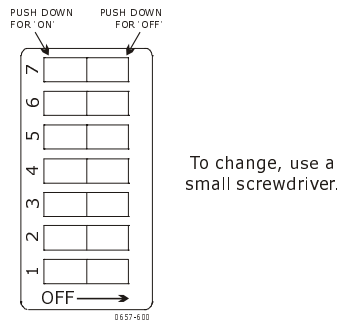
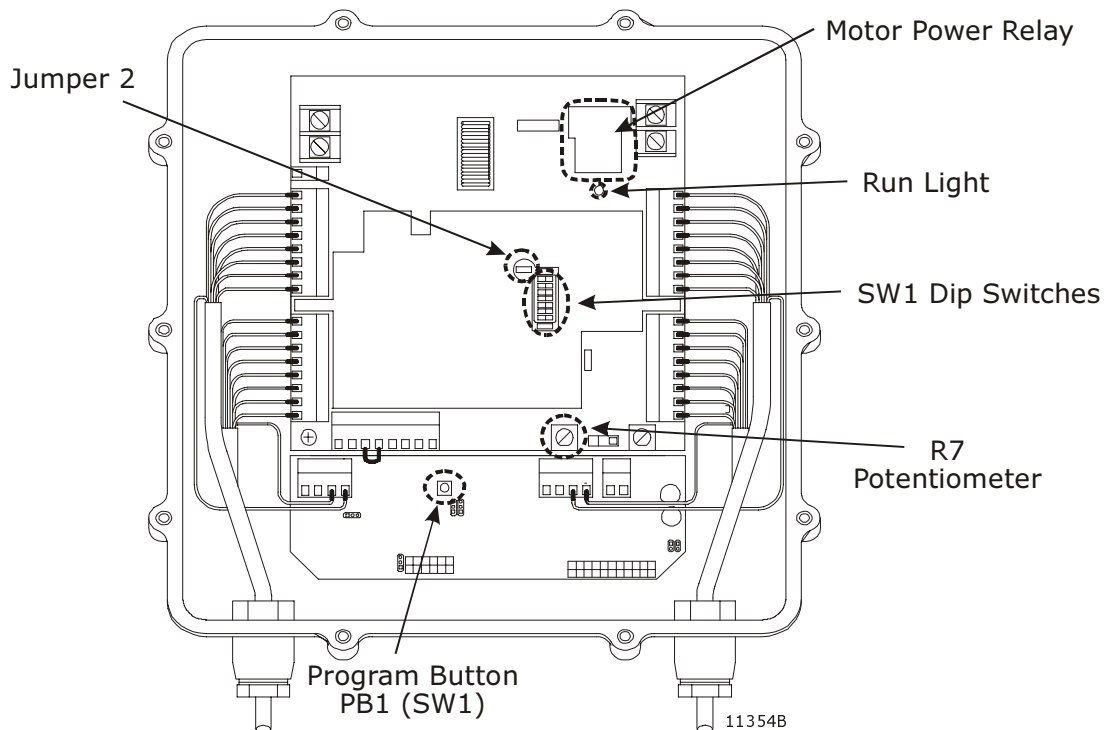

Figure 9: Main Circuit Board SW1 Dip Switch
Figure 10: Processor Circuit Board Set-up Locations
Settings and adjustments are made by selecting the appropriate Dip Switches SW1-1 through SW1-7 on the Main Circuit Board and then saving the configuration by pressing PB1 on the Auxiliary Circuit Board. Refer to Figure 9: and Figure 10:.
Refer to Figure 10:, page 19, or the Drawing in Appendix C for location of SW1 Dip Switch and Jumper 2.
- C) Close Jumper 2 on the Main Circuit Board. (Figure 13:) (Refer to Figure 10:, page 19, for location of Jumper 2)
- Refer to Figure 10:, page 19, or the Drawing in Appendix C for R7 location.
- If a nearly solid tone is heard and the motor control relay is clicking place all Dip Switches in the Off position (Refer to Figure 10:, page 19) and place Jumper 2 in the Open State . Continue with Step B) again.
IF THE TONE AND CLICKING CONTINUES place all Dip Switches in the Off position (Refer to Figure 10:, page 19) and place Jumper 2 in the Open State . Begin Step B) to enable Set-up Mode again.
- Refer to Figure 10:, page 19, for location of Dip Switch.
3) Move Jumper 6 on Auxiliary Board to Pins 2-3 (voltage/current setting). Refer to Figure 10:, page 19 for location.
6) Rotate Potentiometer R7 slowly clockwise until minimum throttle signal is achieved. Refer to Figure 10:, page 19 for R7 location.
7) Store the value by depressing PB1 located on the Auxiliary Board. (Refer to Figure 10:, page 19 for location of PB1)